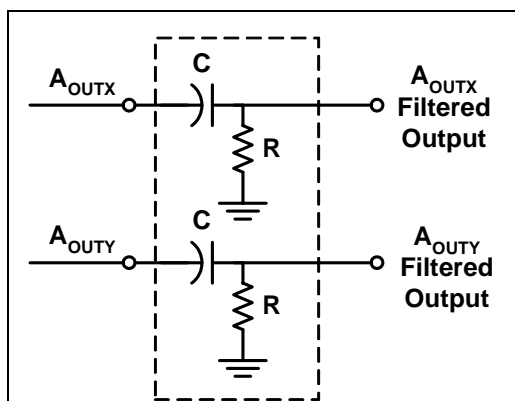

Figure 3: High Pass Filter
**AC Coupling:** For applications where only dynamic accelerations (vibration) are to be measured, it is recommended to ac couple the accelerometer output as shown in Figure 3. The advantage of ac coupling is that variations from part to part of zero *g* offset and zero *g* offset versus temperature can be eliminated. Figure 3 is a HPF (high pass filter) with a –3dB breakpoint given by the equation:  $f = \frac{1}{2\pi RC}$ . In many applications it may be